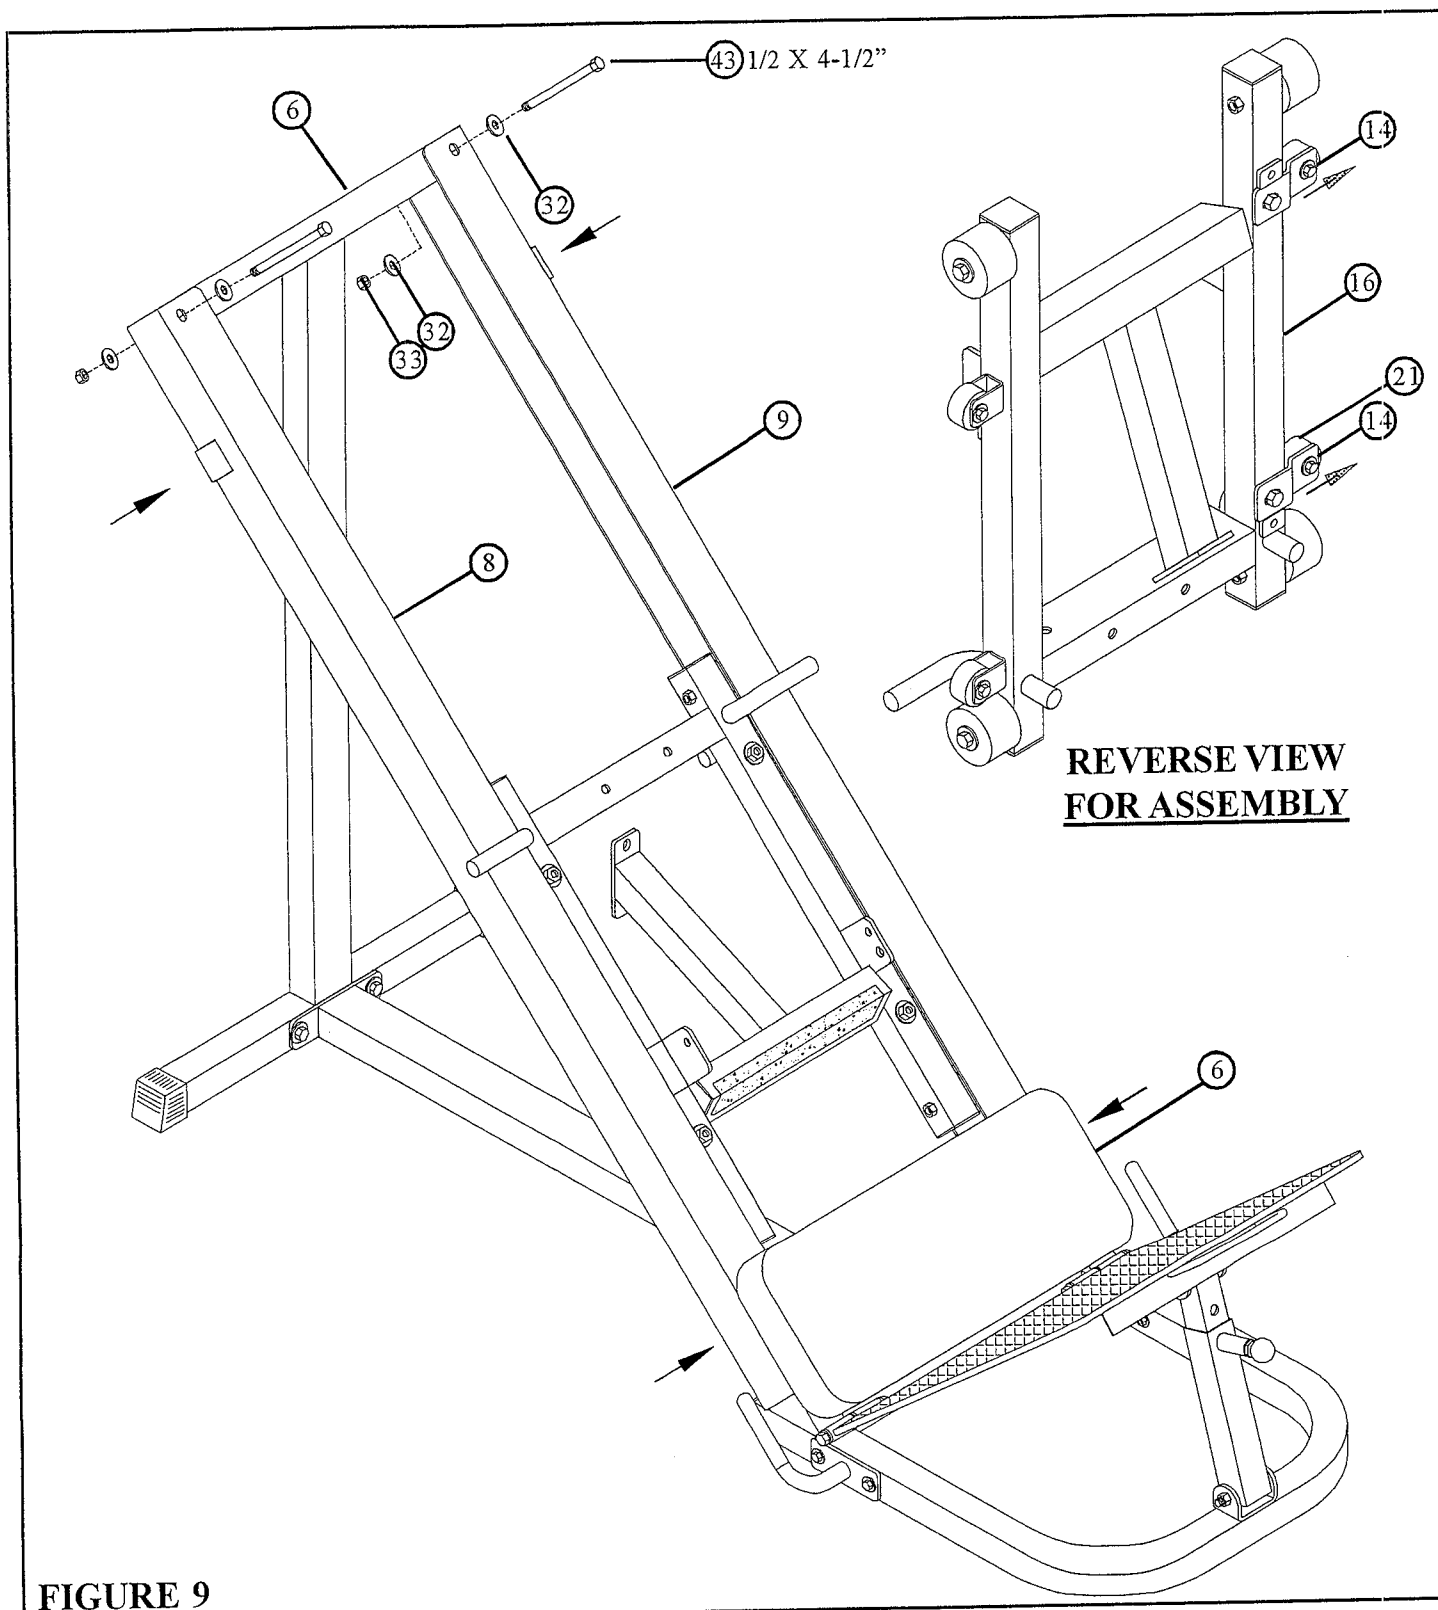

FIGURE 9
- **SECURELY** reassemble the LEFT (8) and RIGHT (9) RAILS to the REAR UPRIGHT (6) as shown in FIGURE 9 using the two 1/2 X 4-1/2" BOLTS (43), four 1/2" WASHERS (32), and two 1/2" LOCK NUTS (33). (!!! IMPORTANT !!! BEFORE TIGHTENING MOVE THE RAILS IN AS FAR AS POSSIBLE)
- **SECURELY** tighten the two 3/8 X 4-1/2" BOLTS (38) holding the SEAT PAD (18) from STEP 5. (!!! IMPORTANT !!! BEFORE TIGHTENING MOVE THE RAILS IN AS FAR AS POSSIBLE)
- To adjust the side to side movement of the CARRIAGE (16), start by sliding the CARRIAGE (16) as far to the left as possible inside the RAILS (8 & 9). Adjust the ADJ. WHEEL BRACKETS (14) out until the 2" DIA. WHEELS (21) contact the RIGHT RAIL (9). **SECURELY** tighten bolt connection. See FIGURE 9 and REVERSE CARRIAGE VIEW.